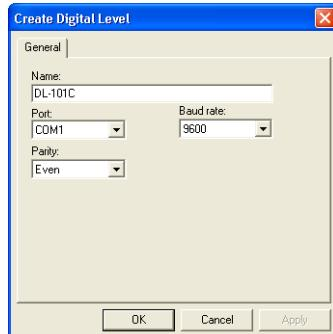

Figure 2-30. Digital Level Properties
2. Click the **Create Digital Level** dialog box (Figure 2-30) and enter the following information.